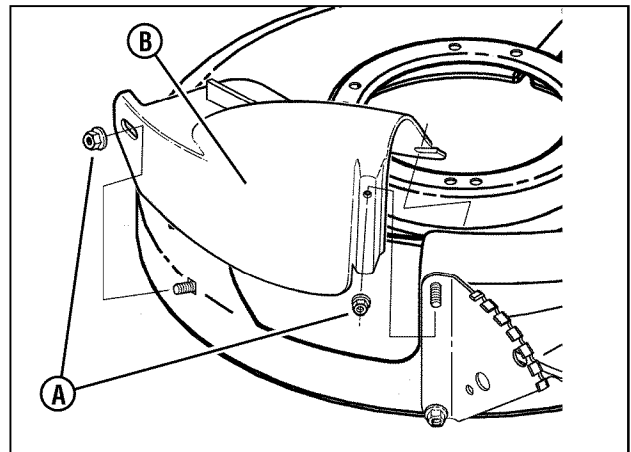

Figure 9: Removing the recycling cover
1. Remove the nuts (A, Figure 9) securing the recycling cover (B) to the mower deck.